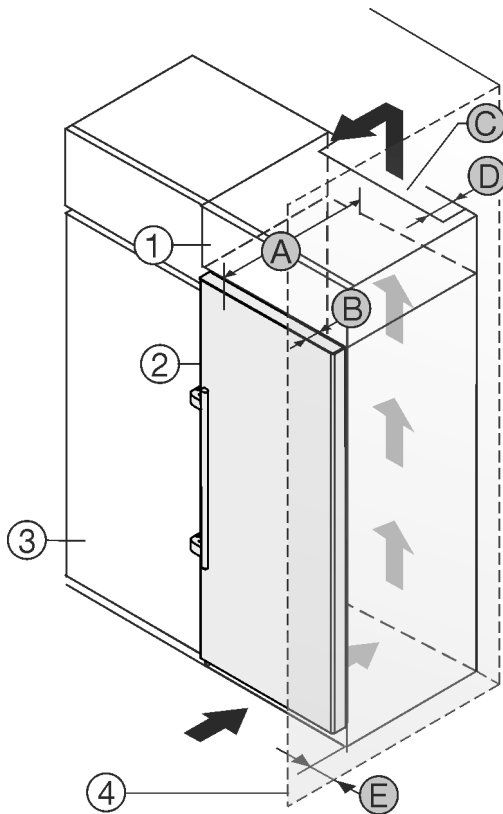

Fig. 1
- (1) Top cabinet
- (2) Appliance
- (3) Kitchen cabinet
- (4) Wall
- (A) Appliance depth
- (B) Door depth
- (C) Ventilation cross-section
- (D) Distance to the rear of the appliance
- (E) Distance to the side of the appliance
Set up the appliance directly next to the kitchen cabinet Fig. 1 (3).
There must be a ventilation shaft at the depth Fig. 1 (D) of the back of the top cupboard over the entire width of the top cupboard.
The cross section of the ventilation gap Fig. 1 (C) must be maintained below the ceiling.
If the appliance is installed with the hinges next to a wall Fig. 1 (4), the distance between the appliance and the wall must be at least 57 mm (2.24 in). This is how far the handle protrudes when the door is open.
In order to be able to fully open the door, the appliance must protrude by the depth Fig. 1 (B) of the door from the front of the kitchen cabinets. Regardless of the depth of the kitchen cabinets Fig. 1 (3) and use of wall spaces, the appliance can protrude further.